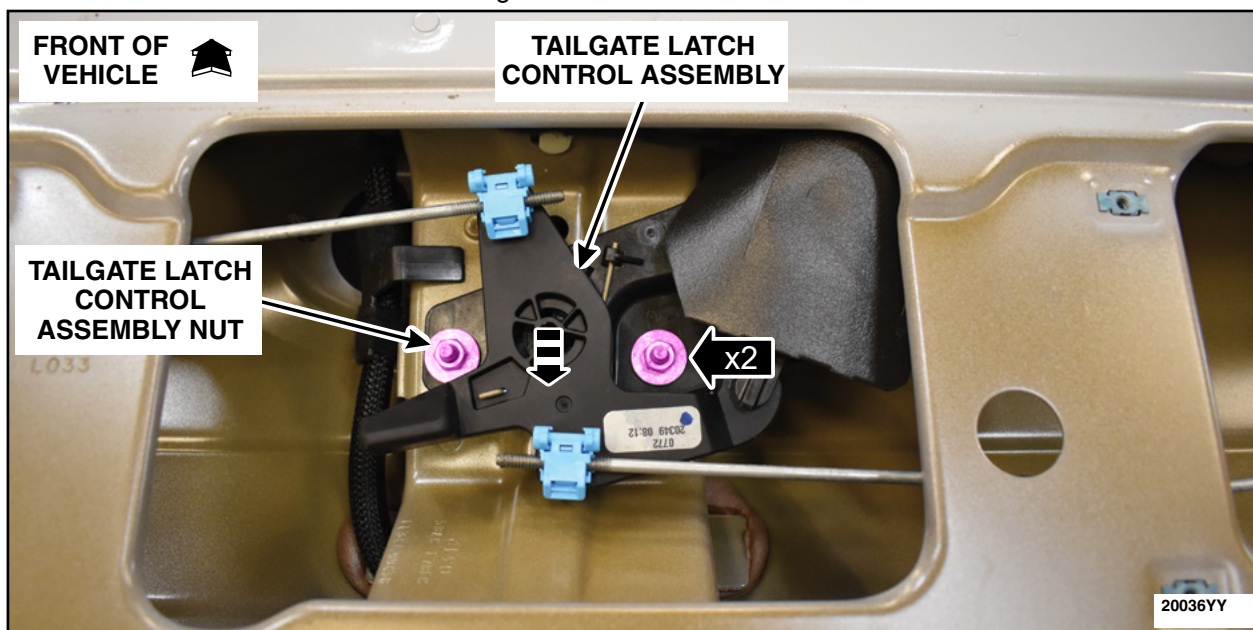

FIGURE 53
73. Remove the tailgate latch control assembly nuts and position the tailgate latch control assembly towards the rear of the vehicle. See Figure 53.